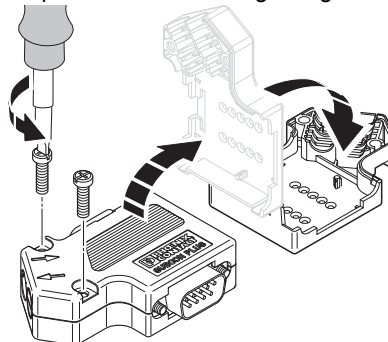

Figure 6 Cable entry on right (1)
- Loosen the housing screws and lift off upper housing part (Figure 6).
- Place PCB in upper housing part (B in Figure 6) and screw stripped conductors into corresponding connection block contacts.